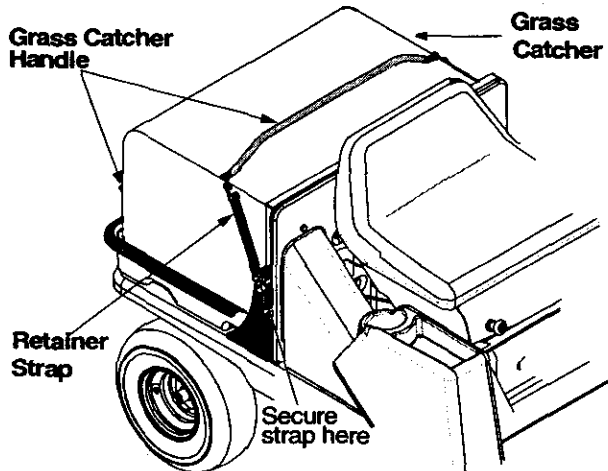

Figure 4
2. Pull the two retainer straps on two sides of the grass catcher and attach loose ends of the strap to the respective hook on the frame of the vehicle. See Figure 4.